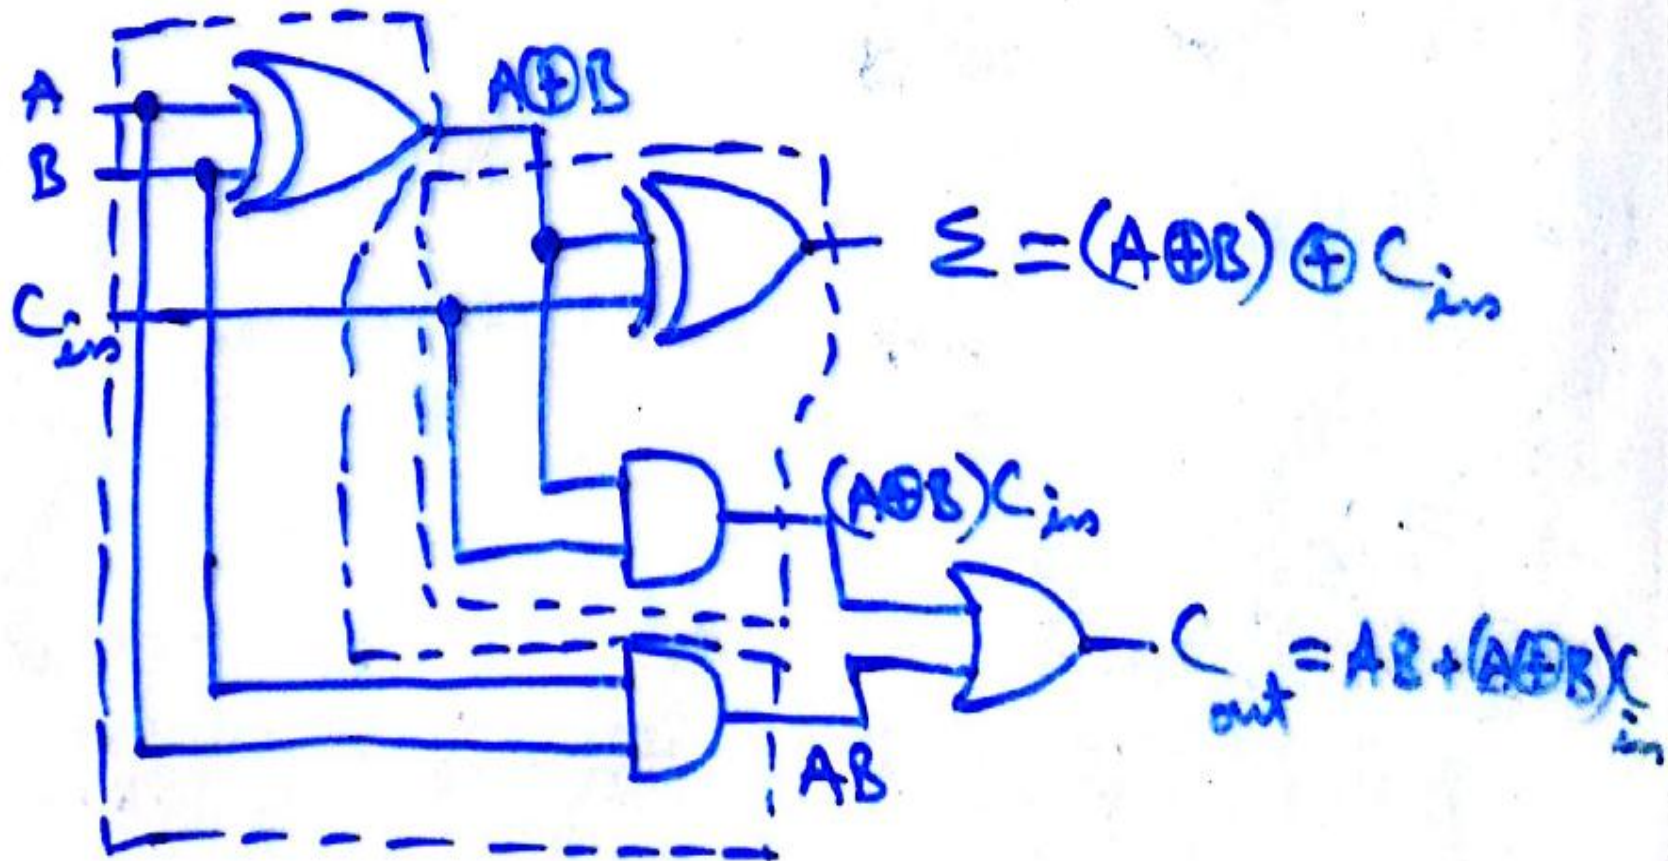

Fig 6-12 Full adder logic diagram
- By using above two equations, we can have the logic diagram of full adder as shown in figure 6.12